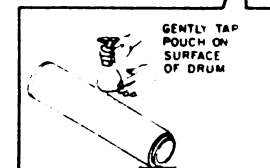

Figure 6. Lubricating the Drum
4. APPLY A THIN LAYER OF ZINC STEARATE ON ENTIRE SURFACE OF DRUM BY SOFTLY TAPPING THE DUSTING POUCH ON SURFACE OF DRUM (FIGURE 6).